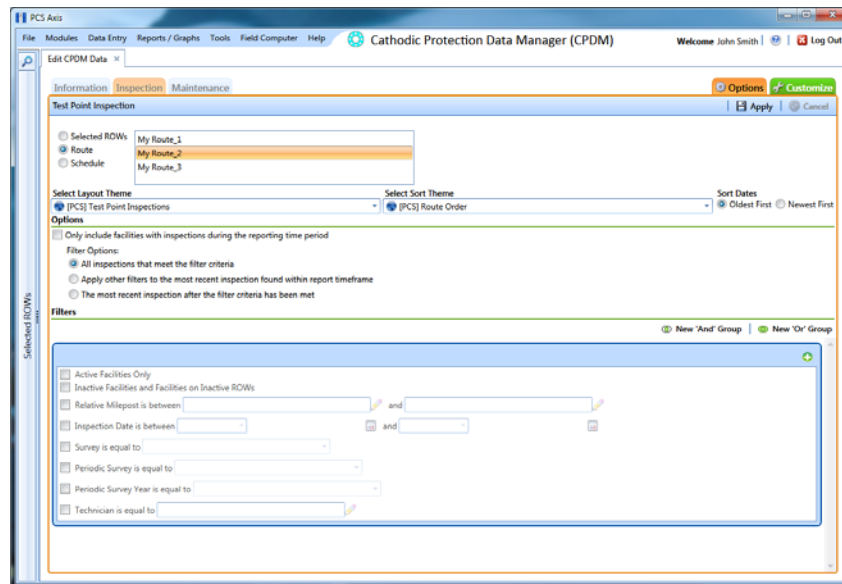

Figure 6-27. Based on Route
- b Click the **Options** tab  to open the options page and then complete the following steps (Figure 6-27, page 190):
- a To change the grid layout theme, click the down arrow in the field **Select Layout Theme** and select a theme in the selection list (Figure 6-27).